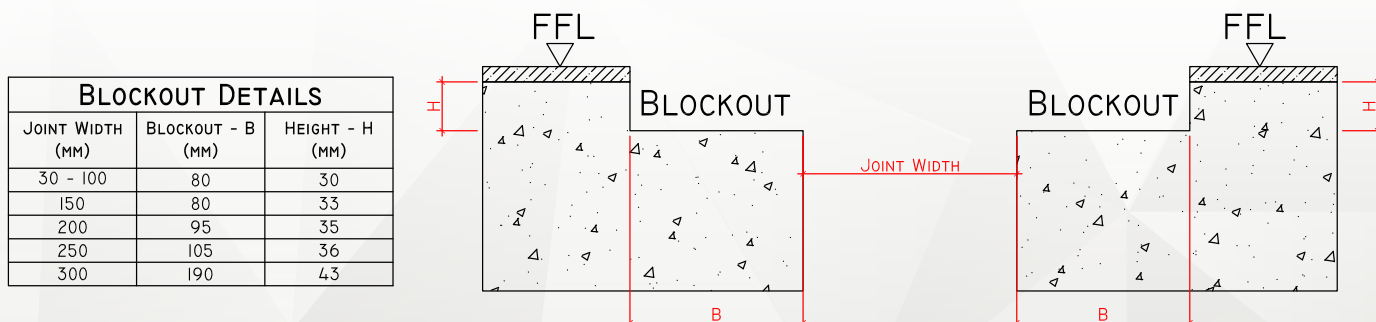

Figure 1.
3. The base of the blockout should be leveled, flatted and paralleled. The minimum width of the blockout and depth is shown in the blockout details table below. See figure 1 below for the blockout details;